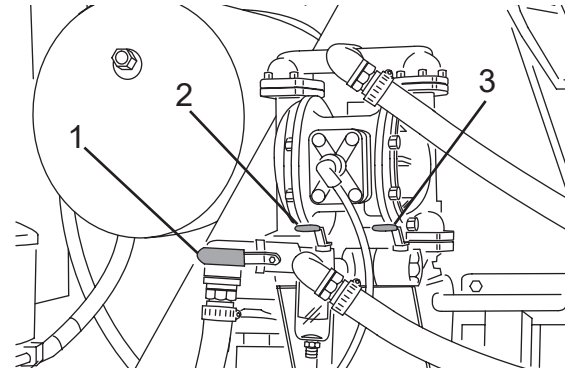

Figure 114
2. Open the main tank ball valve (Figure 114, Item 2) and chemical tank ball valve (Figure 114, Item 1) (if equipped).